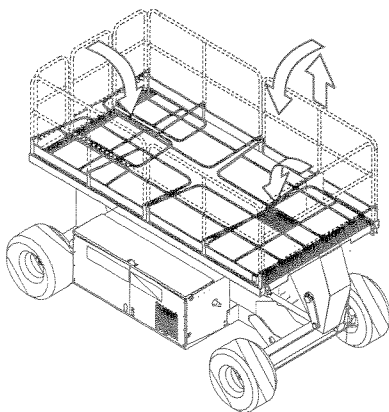

Figure 3-3: Fold Down Guardrails
3.6 Fold Down Guardrails (Figure 3-3)